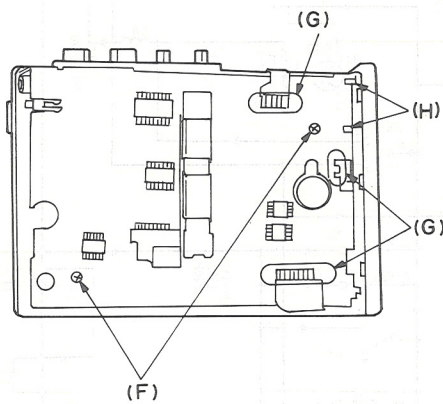

Fig. 3
1. Remove the screw (F) (1.4×2.5)mm×2. (Fig. 3)
2. Remove the solder (G) from flexible PC board. (Fig. 3)